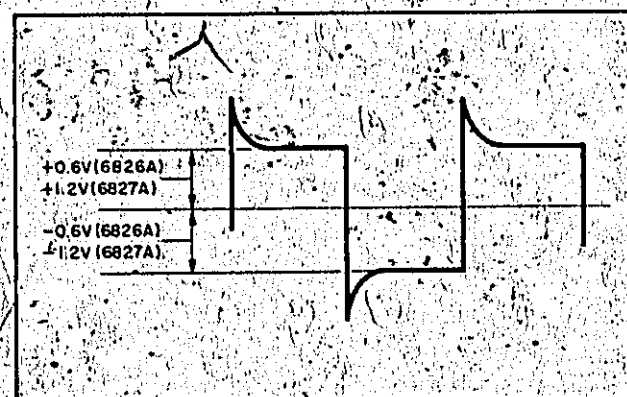

Figure 5-14. Current Sink Test Waveform
- f. Turn on both instruments simultaneously and observe that waveform sampled across the 1 ohm resistor is as illustrated in Figure 5-14.
- g. Repeat test with VOLTAGE control on test instrument set fully counterclockwise. Waveform should be same as Figure 5-14.